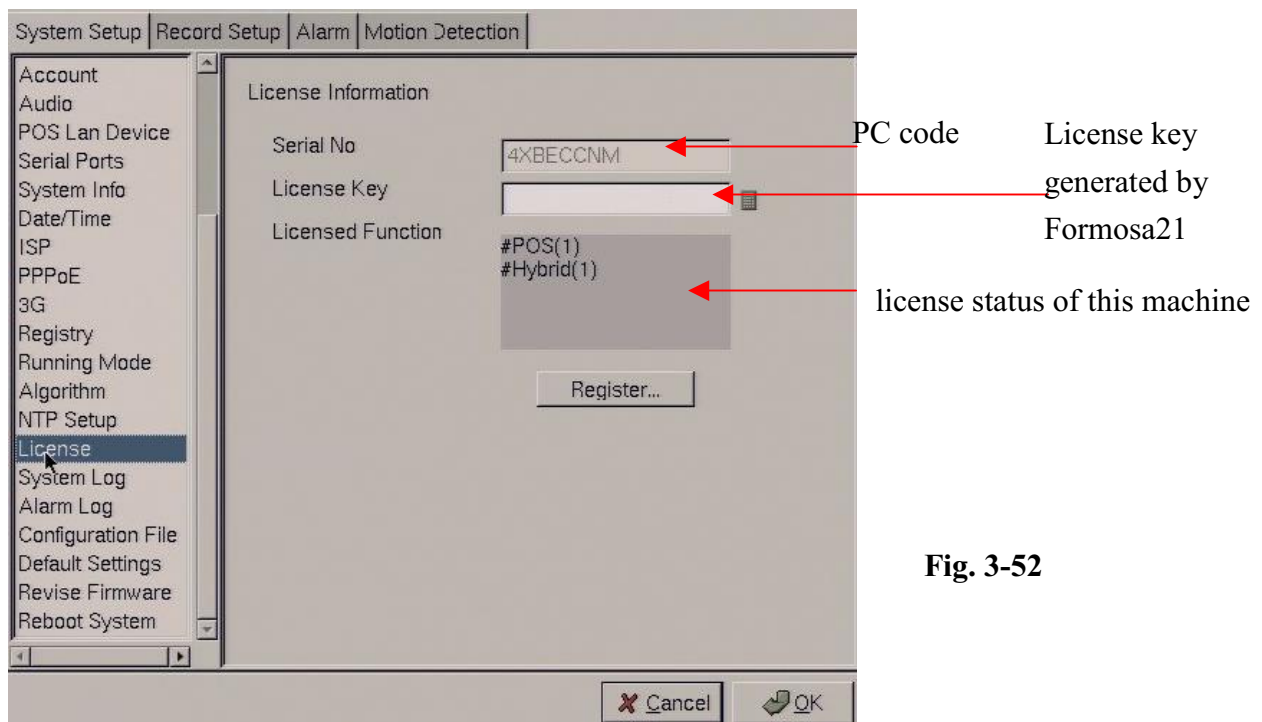

Fig. 3-52
- There are two ways to grant POS license. One is key-in license key; the other one is plug-in a key-pro. So if you plug-in a key-pro you don't need to key in the license number again on **Fig. 3-52**.